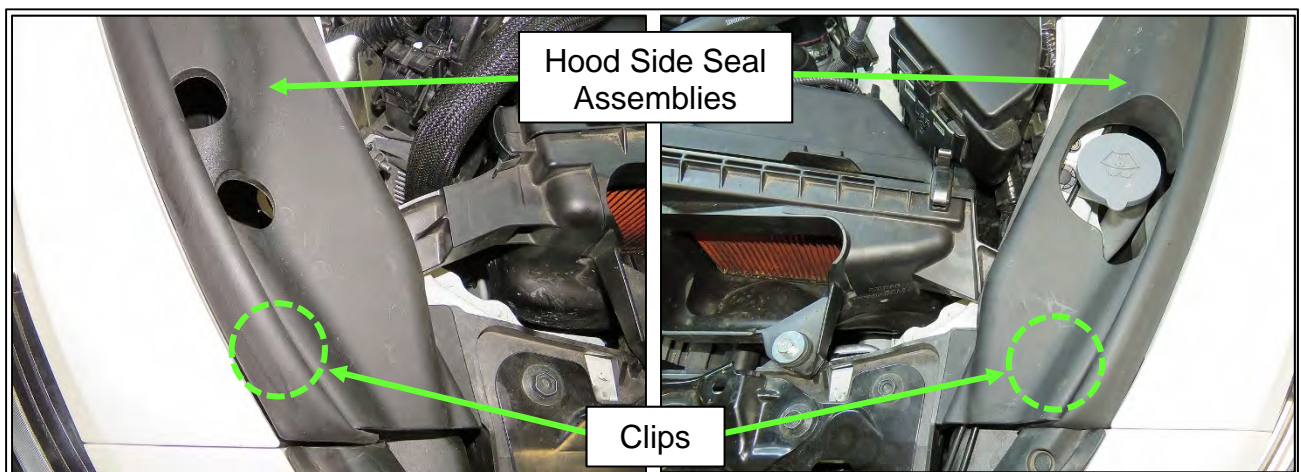

Figure 113
179. Reattach the passenger (RH) side and the driver (LH) side Hood Side Seal Assembly clips (Figure 113).